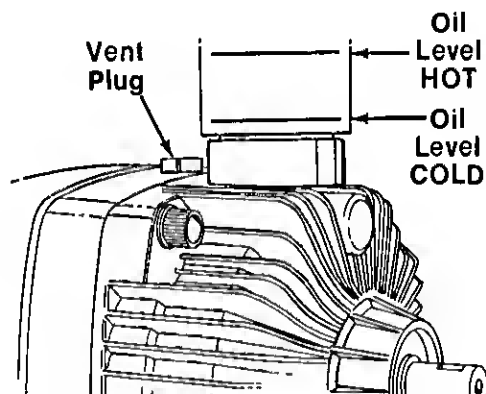

FIGURE 22.
The transmission fluid level should be checked prior to initial use. The level should not be above the **COLD** mark which is about ¼" from the bottom of the reservoir/expansion tank. See figure 22.
3. Check the oil level in the reservoir/expansion tank. See figure 22.
To fill the hydrostatic transmission, remove the vent plug located next to reservoir/expansion tank to prevent an air lock. Replace vent plug. See figure 22.